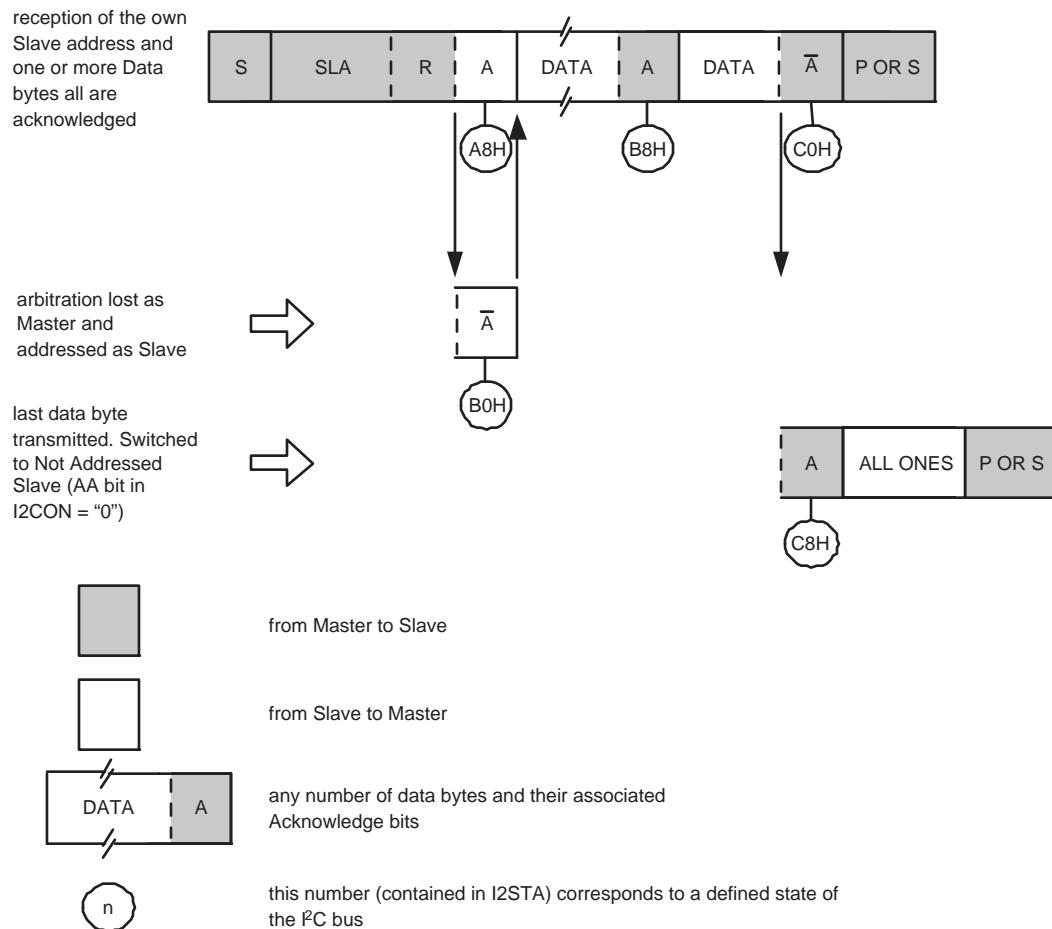

Fig 57. Format and states in the Slave Transmitter mode
In the slave transmitter mode, a number of data bytes are transmitted to a master receiver (see Figure 57). Data transfer is initialized as in the slave receiver mode. When ADR and CON have been initialized, the I²C block waits until it is addressed by its own slave address followed by the data direction bit which must be “1” (R) for the I²C block to operate in the slave transmitter mode. After its own slave address and the R bit have been received, the serial interrupt flag (SI) is set and a valid status code can be read from STAT. This status code is used to vector to a state service routine, and the appropriate action to be taken for each of these status codes is detailed in Table 241. The slave transmitter mode may also be entered if arbitration is lost while the I²C block is in the master mode (see state 0xB0).